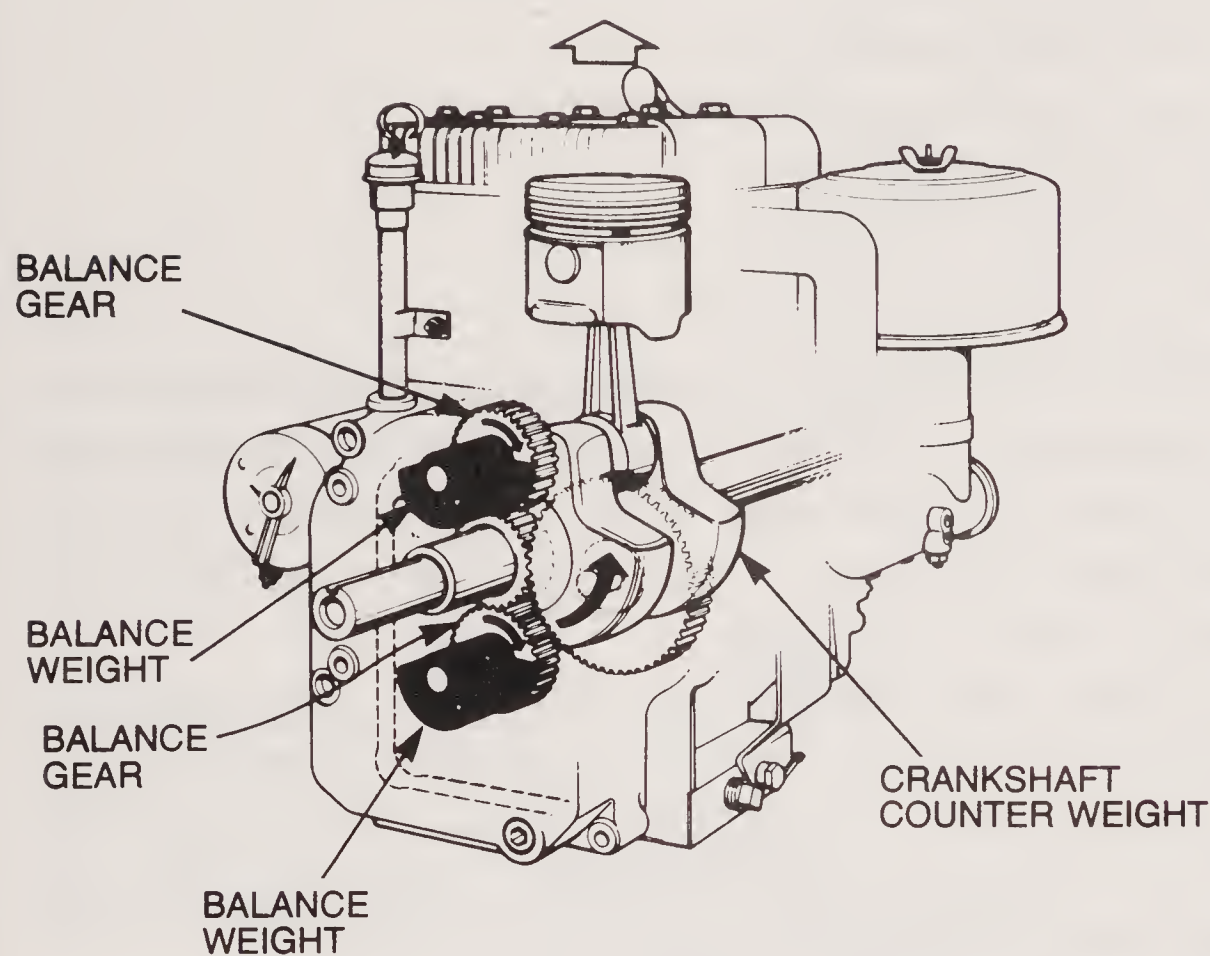

FIGURE 6-17
1. In one type of balance system, synchronized balance gears are mounted on stub shafts and turn on needle bearings (Figure 6-17). The gears are in mesh with one another and driven by a gear on the crankshaft. The stub mounting shafts are pressed into bosses in the crankcase. Snap rings hold the gears in place, and spacer washers control end-play. Timing marks are found on the gears. Become familiar with the line-up of the marks so you are able to reinstall the gears in the proper position. A special tool simplifies the timing process for this type of gear arrangement. If you must remove the gears and/or shaft, make a sketch of how the marks relate to one another; this diagram helps you when assembling the unit.